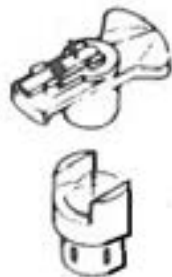

FIGURE 2
- Figure 2, Install magnet sleeve over distributor shaft, press rotor down into the magnet sleeve and onto distributor shaft. **NOTE:** Rotor is indexed to the sleeve by the locating ears, make sure rotor is completely seated on distributor shaft. An o-ring may be included in the hardware kit. Install the o-ring between the point cam and the magnet sleeve.